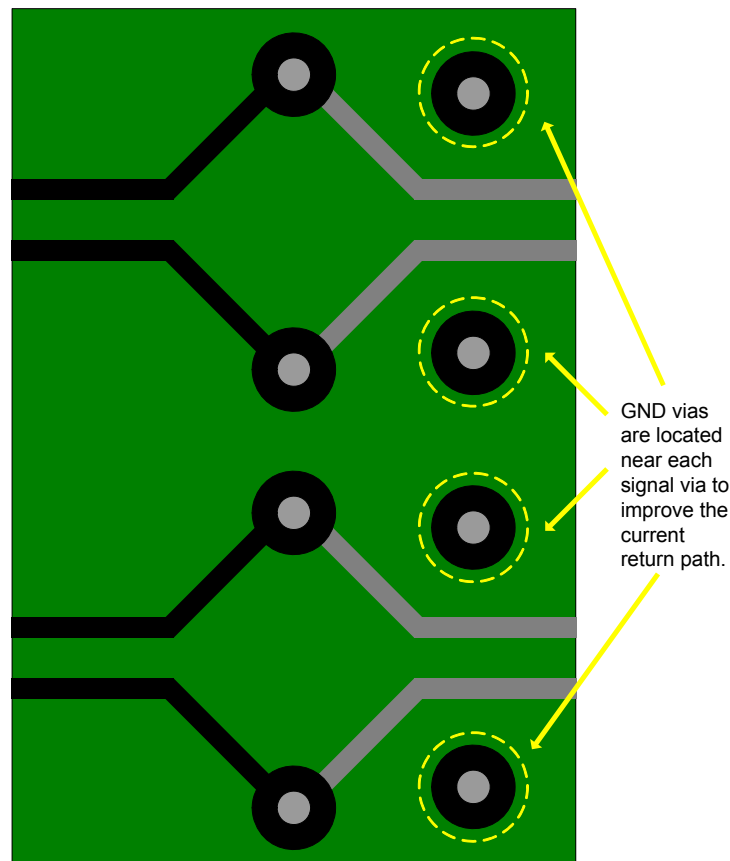
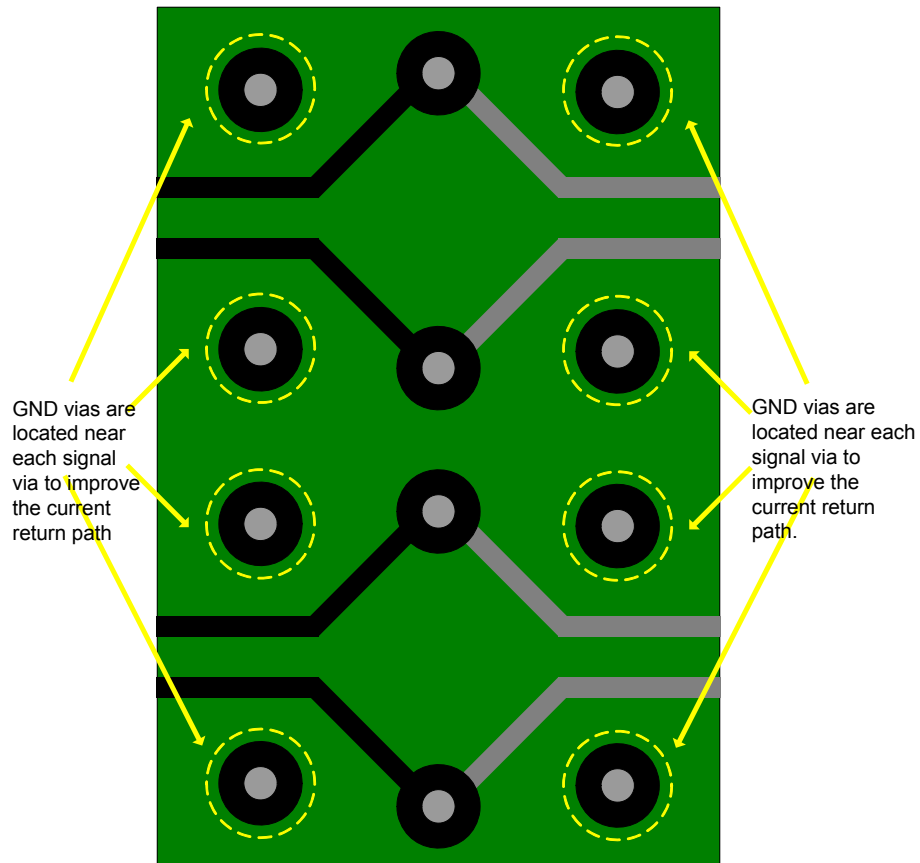

Figure 12-7 Good Ground Vias for Signal Return Paths – One Return Path Via Per Signal Via
Figure 12-8 Better Ground Vias for Signal Return Paths – Two Return Path Vias Per Signal Via (Less Reflection)
- Each time differential traces make a layer transition (pass through a pair of signal vias), there must be at least one ground via located near each signal via. Two ground vias near each signal via is better. See Figure 12-7 and Figure 12-8.